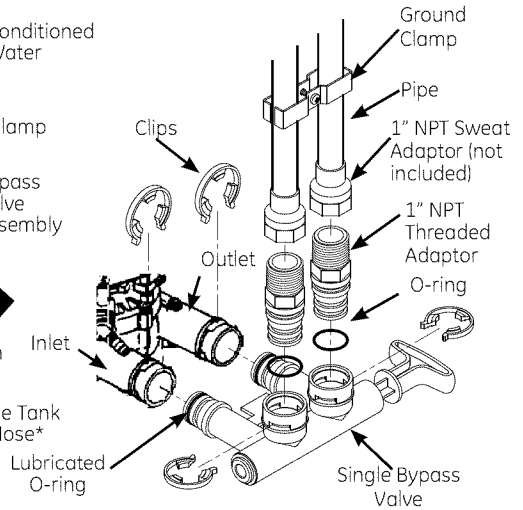

Figure 7
1. Visually check and remove any debris from the water softener valve inlet and outlet ports, see Figure 7.
3. If not already done, put a light coating of silicone grease on the single bypass valve o-rings, see Figure 7.
4. Push the single bypass valve into the softener valve as far as it will go. Snap the two large holding clips into place, from the top down, see Figure 7 and 10.